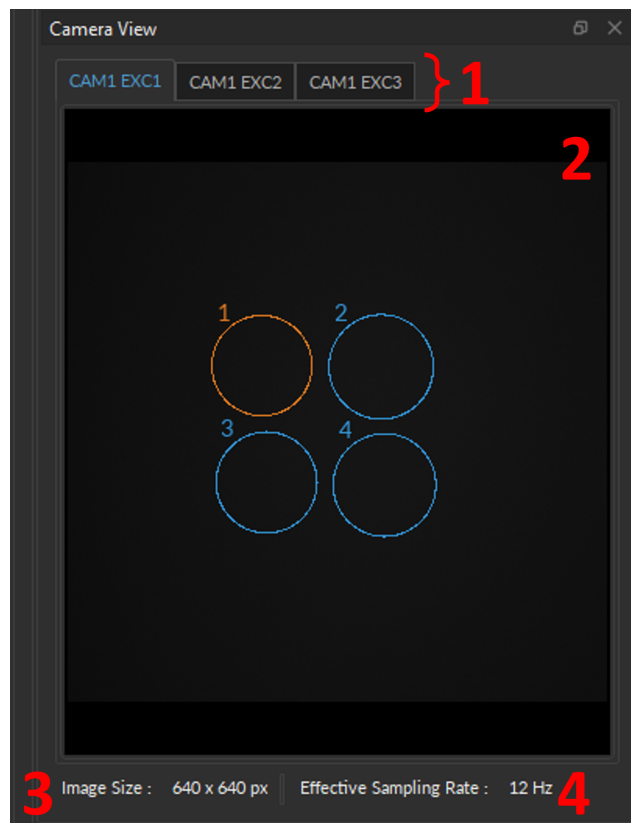

Figure 14.41: Camera View
1. The **CAM # EXC #** tab (Fig. 14.41, 1) - which displays each sensor's live video feed, where the ROI(s) can be drawn, edited, or deleted. Note that the tab will display the user-defined name if a name was assigned to each camera excitation when creating the channel in the **Configuration Window** (Fig. 14.15, e).
3. The **Image Size** (Fig. 14.41, 3) displays the image resolution, set in the **Configuration Window** (as in Fig. 14.15, 2).
4. The **Effective Sampling Rate** (Fig. 14.41, 4) the value set in Section 14.4.3, no. 1c.